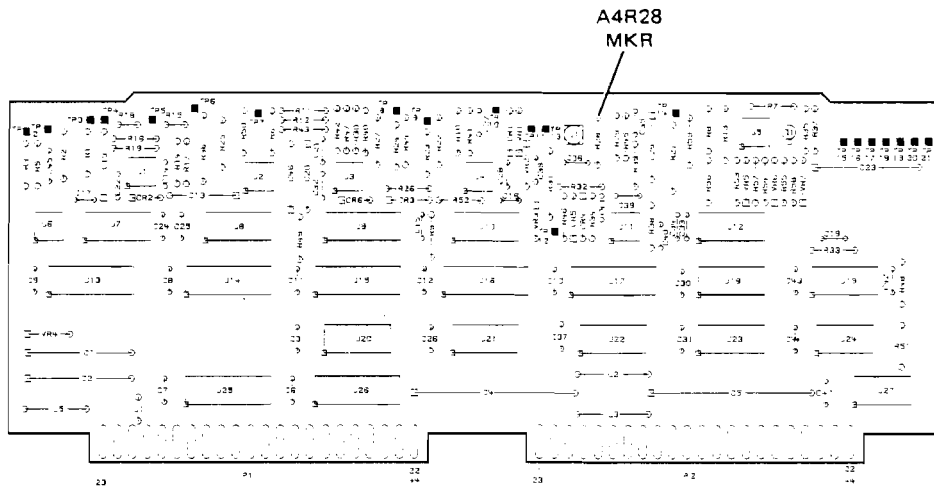
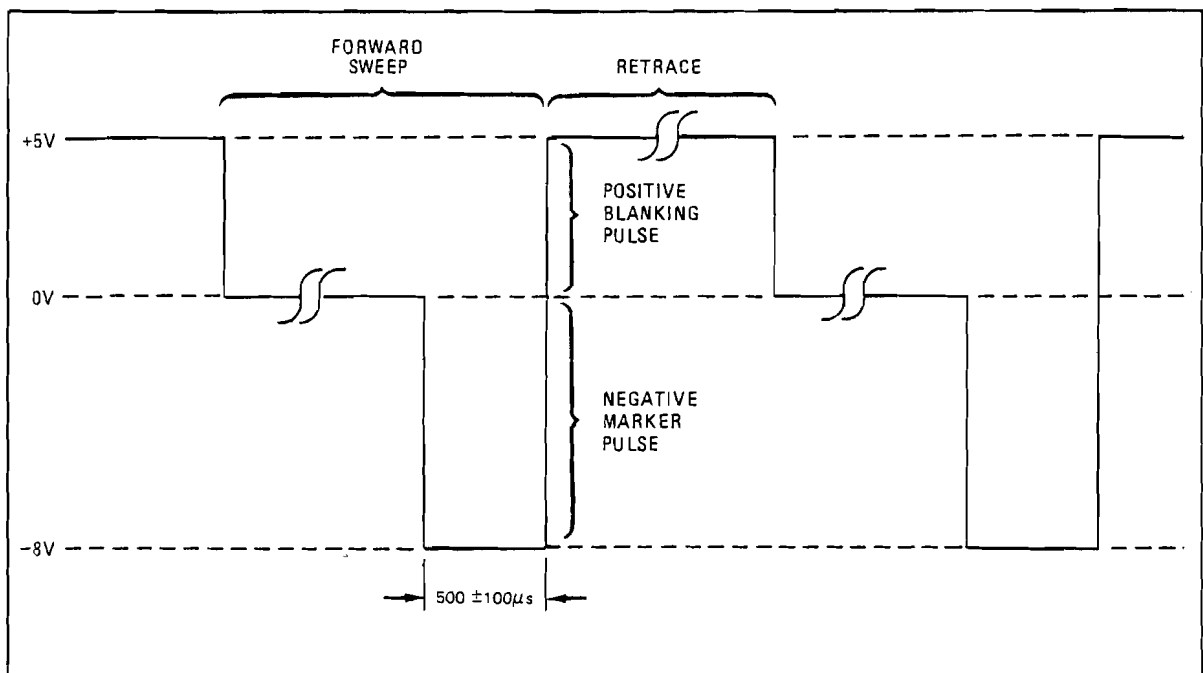

Figure 5-19. Location of Marker DAC Adjustment
Figure 5-20. Marker DAC Adjustment Waveform
- Adjust A4R28 MKR counterclockwise for a counter reading of 500 ± 100 us. This sets the width of the -8 volt marker pulse as shown in Figure 5-20. Refer to Figure 5-19 for adjustment location.